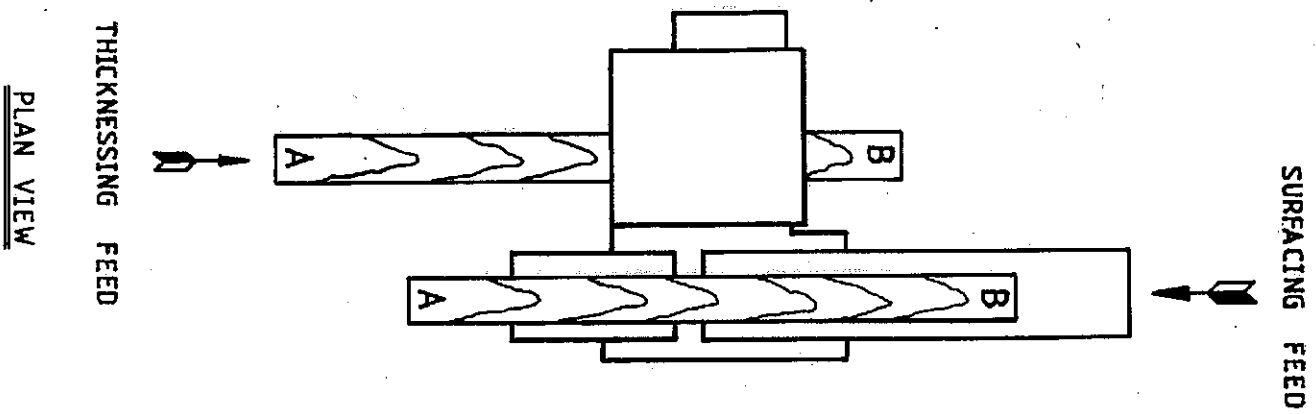

Fig 22
- 2) Retrieve timber held by power feed unit after surfacing operation and feed back into machine for thickening as shown in FIG.22, ie, planed faces against fence and table.